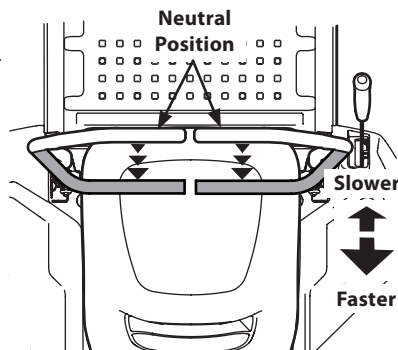

Figure 30
1. Slowly and evenly move both lapbar drive control levers rearward. The tractor will start to move in the reverse direction. See Figure 30.